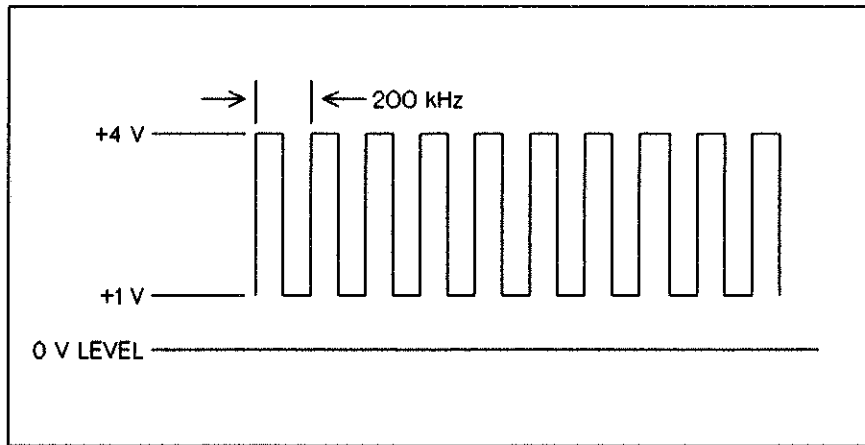

Figure 11-3 Isolated Input Test Signal
2. Set the function generator to output a +1 V to +4 V peak-to-peak, 200 kHz square wave. The signal is represented in Figure 11-3. If using the recommended function generator, set it up as follows (a 50  $\Omega$  output impedance is assumed):